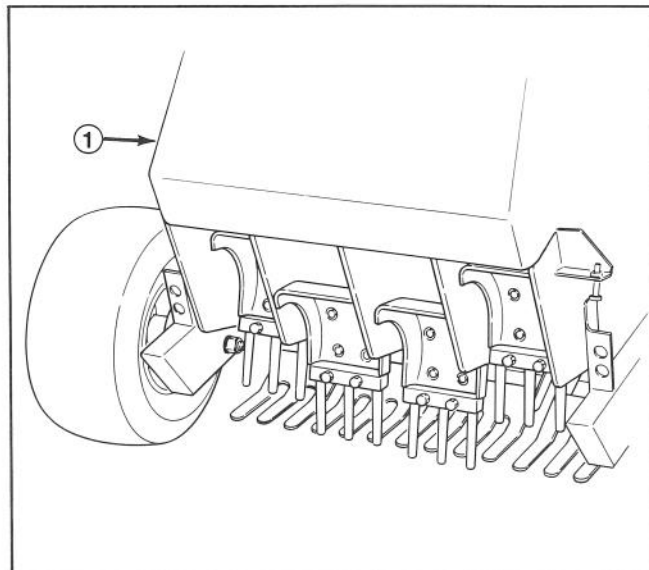

Figure 42
- A. Unlatch and remove coring head cover (Fig. 42).